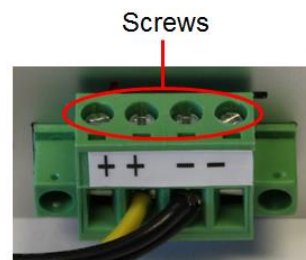

Figure 4: Wire connection screws on green connectors
2. A “Y” connector is included in the package with two green plugs and one white plug. Tighten the wire connection screws on each green connector on both the SMRT Probe 4000 and PCDD (in case they loosened during shipping), using the small screwdriver supplied with the Demo Kit. See Figure 4.